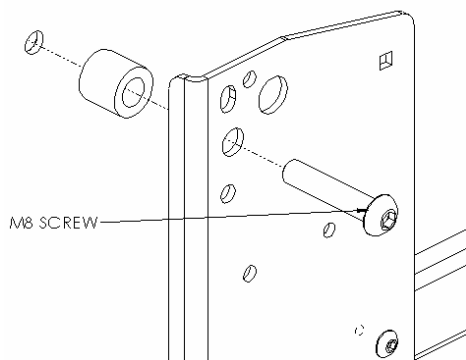
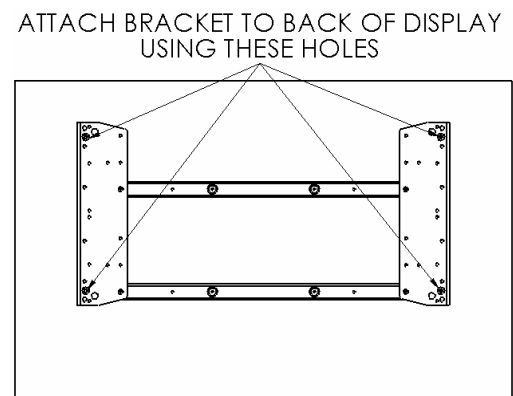

Figure 8
Figure 9
5. **Bracket Installation:** Stack nylon spacers over mounting holes of screen and attach brackets to back of display using the M8 screws (see Figure 8 & Figure 9). Do not over tighten screws.